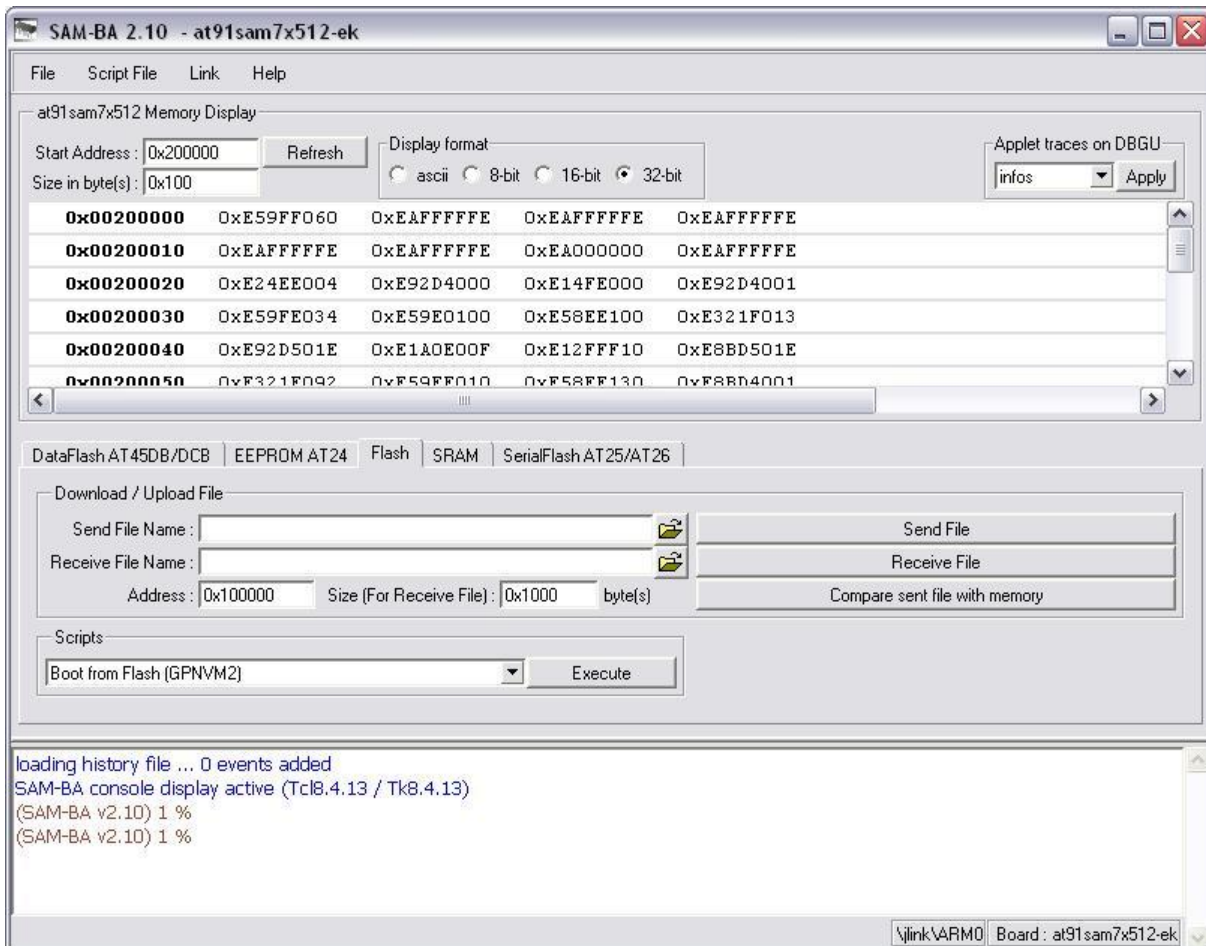

Figure 20: SAM-BA main screen
- Click 'CONNECT' to get to the SAM-BA main screen (Figure 20)